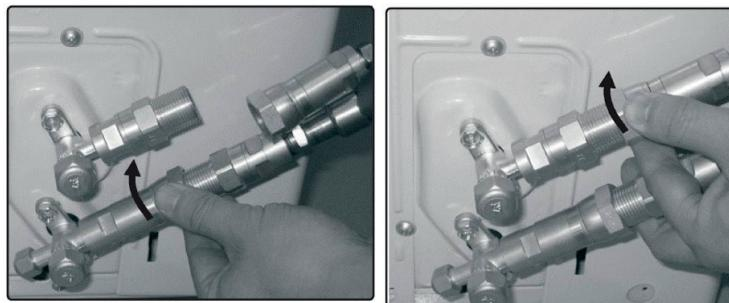

Fig. 6.3
3. Align the refrigerant pipes correctly so that they line up with the valves and are not stressed. Place the screw connector on the refrigerant line just onto the thread on the outdoor unit and tighten the first few threads by hand, Fig.6.3.